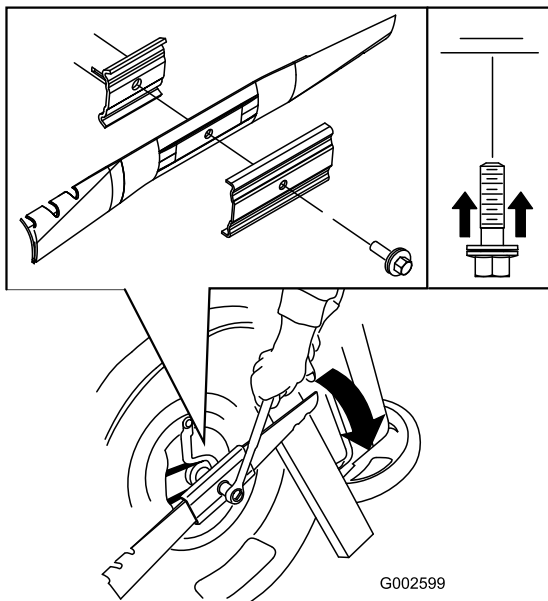

Figure 35
3. Use a block of wood to hold the blade steady (Figure 35).
4. Remove the blade, saving all mounting hardware (Figure 35).
5. Install the new blade and all mounting hardware (Figure 35).